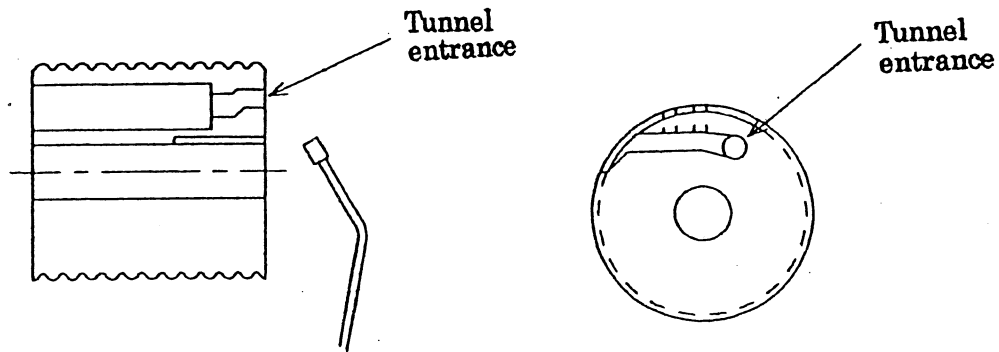

Figure 19
- (d) Insert the wire rope tail into the drum tunnel entrance and let it run through the tunnel. (See Fig.19)